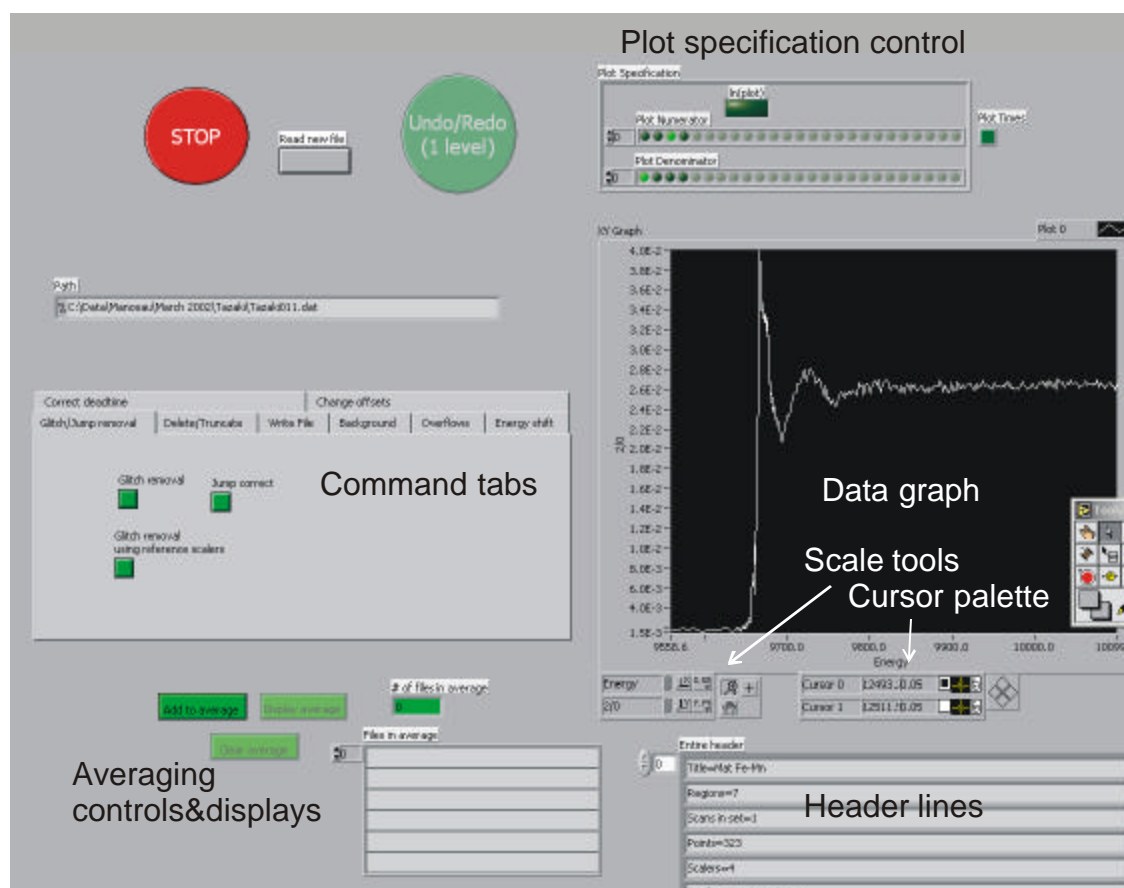
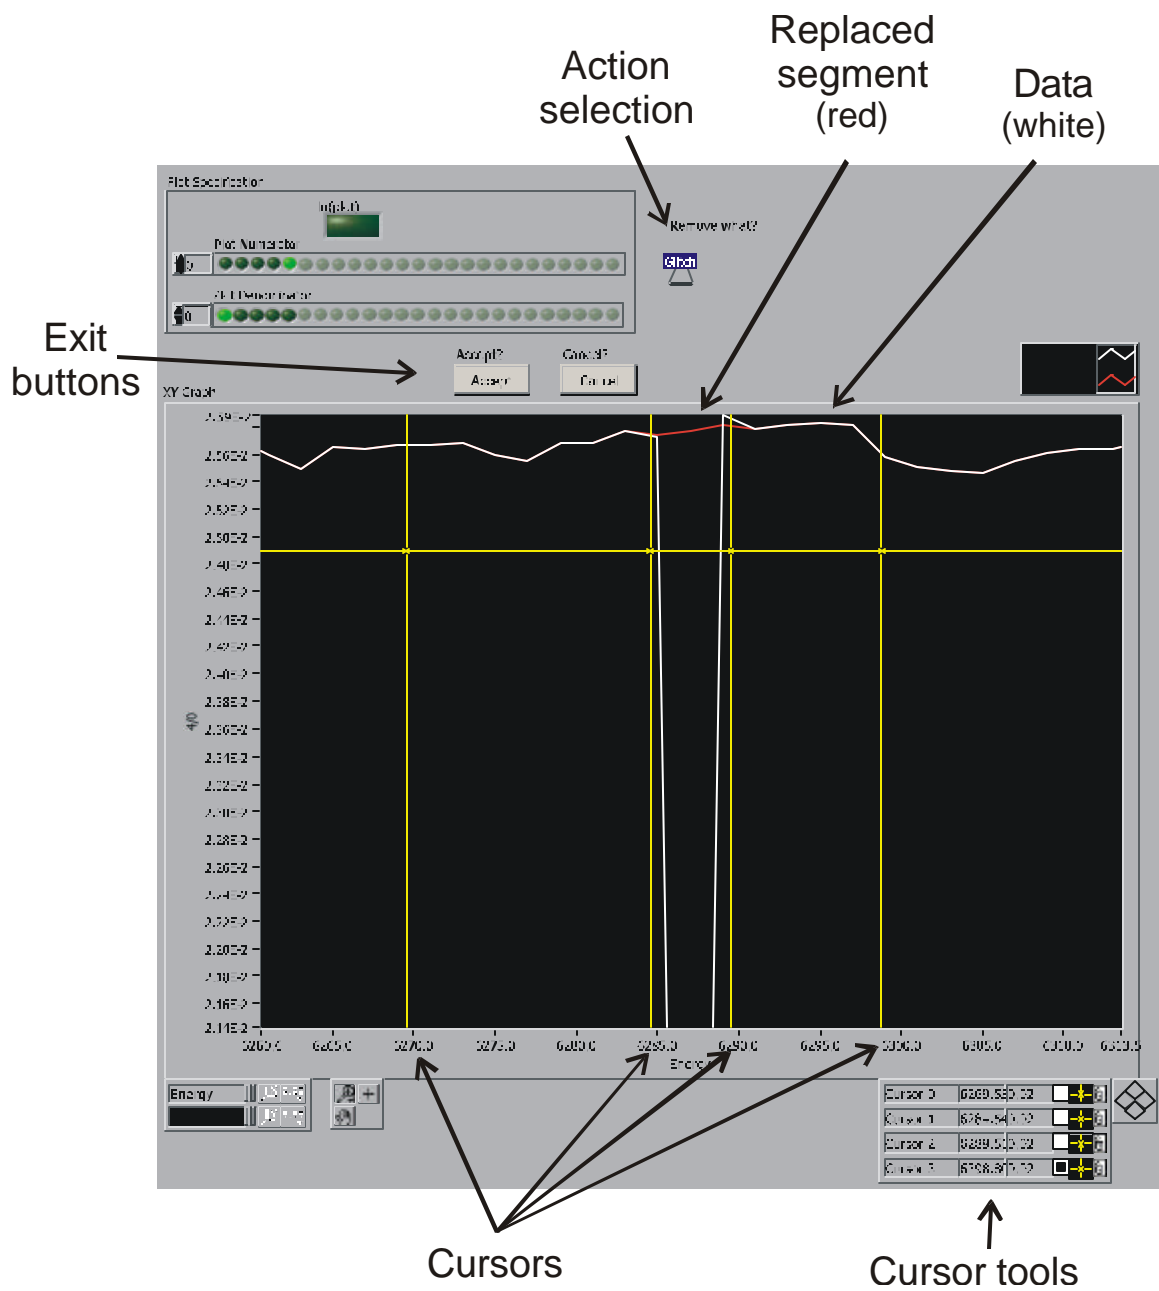

Figure 1. The main screen. This is the entry point. Items shown in Arial are labels for this Figure and not part of the actual screen.
Figure 2. The glitch/jump removal screen, showing glitch removal.
When you first click on the program, you get a file-open dialog box, which prompts you to find the file you want to work on. When the file is read in, it's plotted on the data graph, which is part of the main screen shown in Figure 1. If it doesn't show up, it may simply be off-scale. To bring it back, use the `Scale` tools. Two clicks will do it. The description of what to plot is handled by the `Plot Specification` control. As a convention, I'll use `Courier` font for names of controls or icons. This is a set of 'LED's. The top row specifies which scalars are added together to form the numerator and the bottom row specifies the denominator. The big light at the top specifies whether to take the log (natural) of the result. The light at the right side of the box tells the system to forget all the above and just plot the count time. This can be useful for figuring out
The data file has a header which contains all sorts of information about the data, such as the energy intervals, the title line, the number of scans in the set, etc. This header is shown as an array of character strings below the data graph. Figure 1 shows part of that display, the rest having been cropped off in making the Figure.
Now I will describe the specifics of the glitch/jump removal commands, which are accessible through the three buttons shown on the tab control in Figure 1. Pressing the Glitch removal or Jump correct buttons brings up a screen like that in Figure 2. The Glitch removal using reference scalers brings up a screen which is similar but has more space for the plot specification control. There are two reasons for this difference; glitch removal with reference scalers is implemented in a separate subroutine, and also this function tends to be used with multi-element detectors for which there will be many scaler channels.
First, consider glitch removal, as shown in Figure 2. The procedure is:
2. Push the `Glitch removal` button. The screen in Figure 2 pops up with the graph abscissa limits the same as in the zoomed areas you selected in the main screen.
Jump correction works in the same way. In fact, the toggle marked `Action Selection` in Figure 2 lets you change modes without having to go back to the main screen.